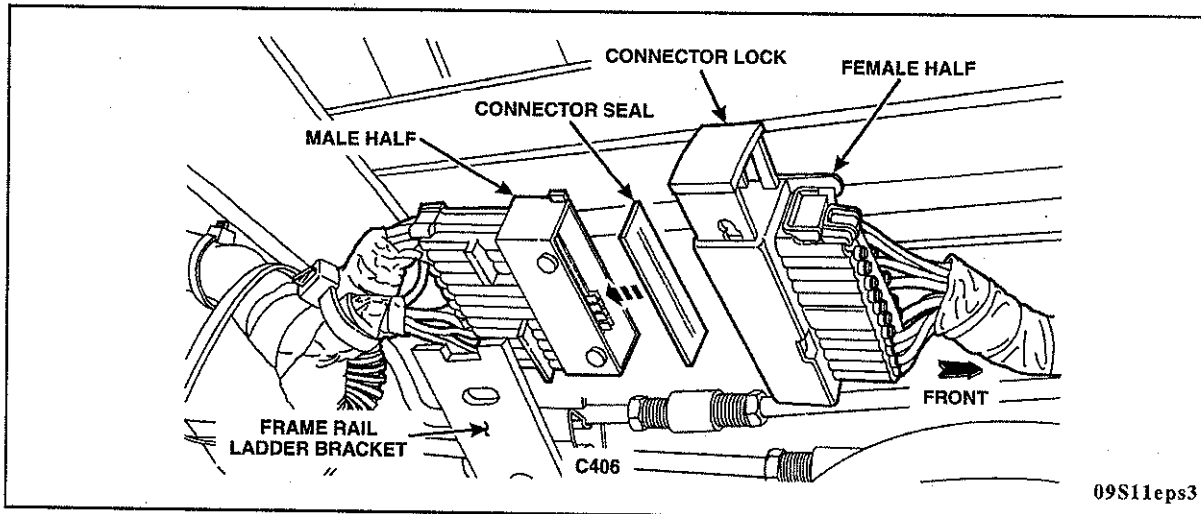

FIGURE 2
3. Release the connector lock and separate the front and rear main chassis harness at C406. Inspect the male half of the connector for the seal. See Figure 2.
- Using gentle pressure, push the seal downward onto the terminal pins until the seal seats in the bottom of the connector cavity. See Figure 2.